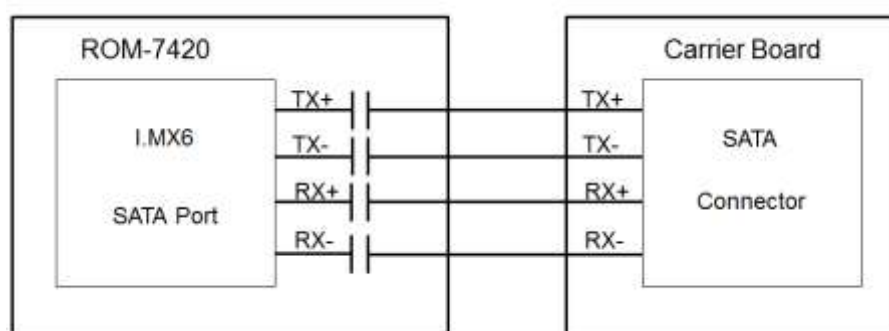
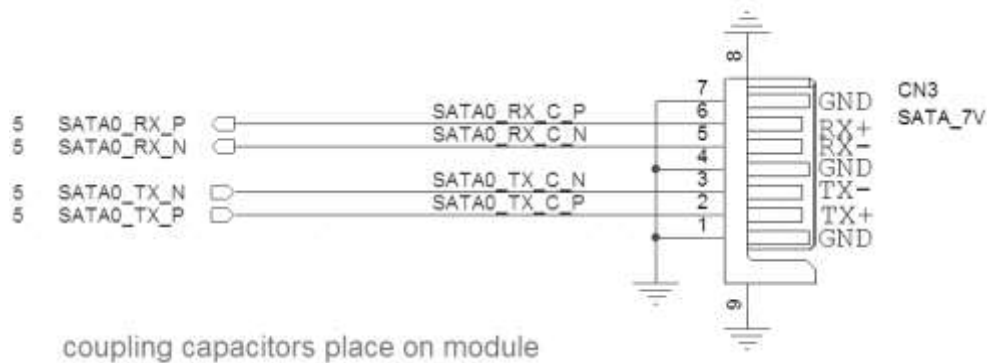

Figure 3-24 SATA interconnection example
Figure 3-25 SATA Schematic Reference
Both of TX and RX SATA differential pairs require AC coupling capacitors. All AC coupling capacitors on the transmitter (TX) and receiver (RX) are placed on the ROM-7420 Module. Do not place the AC coupling capacitors on the carrier board. Figure 3-24 and Figure 3-25 show the connections.